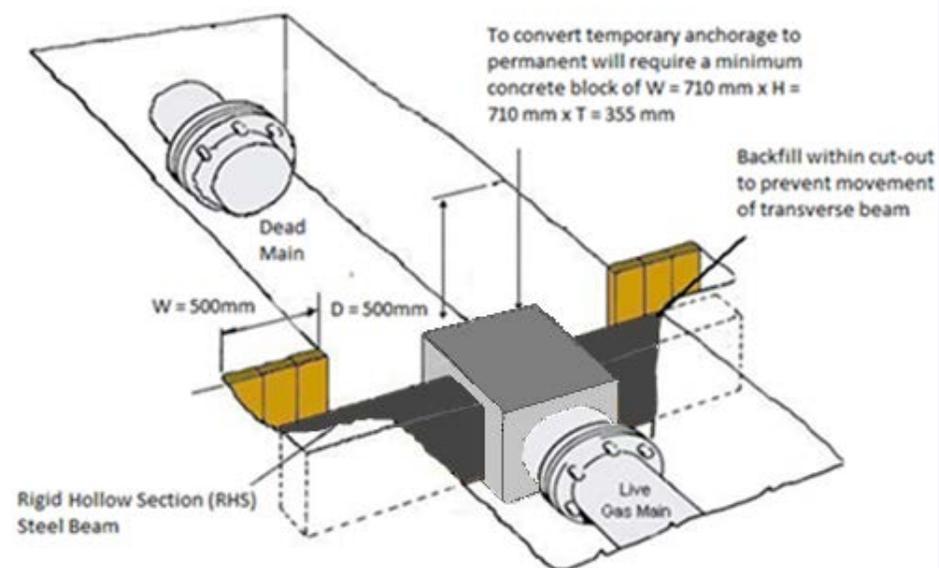
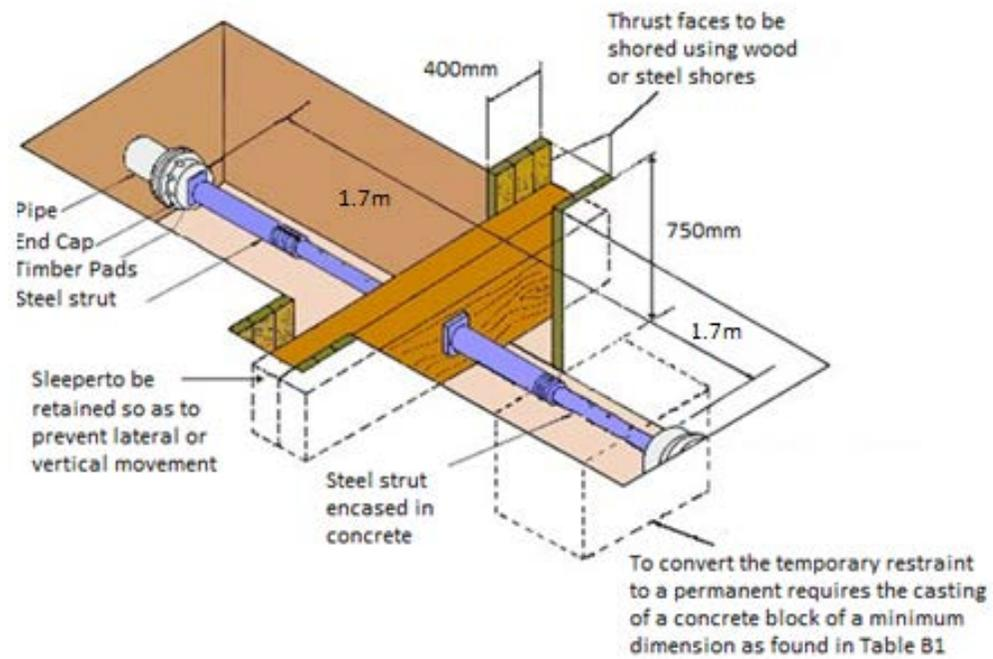

Figure B3-1 Temporary Anchorage to Permanent Anchorage - Model Design 1
Figure B3-2 Conversion of Steel Struts from Temporary Anchorage to Permanent by Casting a Concrete Block
The permanent concrete anchor encasing a steel strut or RHS beam (if it's used see Figure B3-2 and Figure B3-1) must be protected against corrosion using approved protection, for example densomastic tape.
2. Using a minimum of 18 mm plywood, create shuttering to the required dimensions for a permanent anchor block – see Figure B3-1 and refer to Table B1-1 if using model designs 2 or 3. If concreting a steel strut refer to Figure B3-2. All these dimensions should be confirmed by your Operational Manager prior to starting.